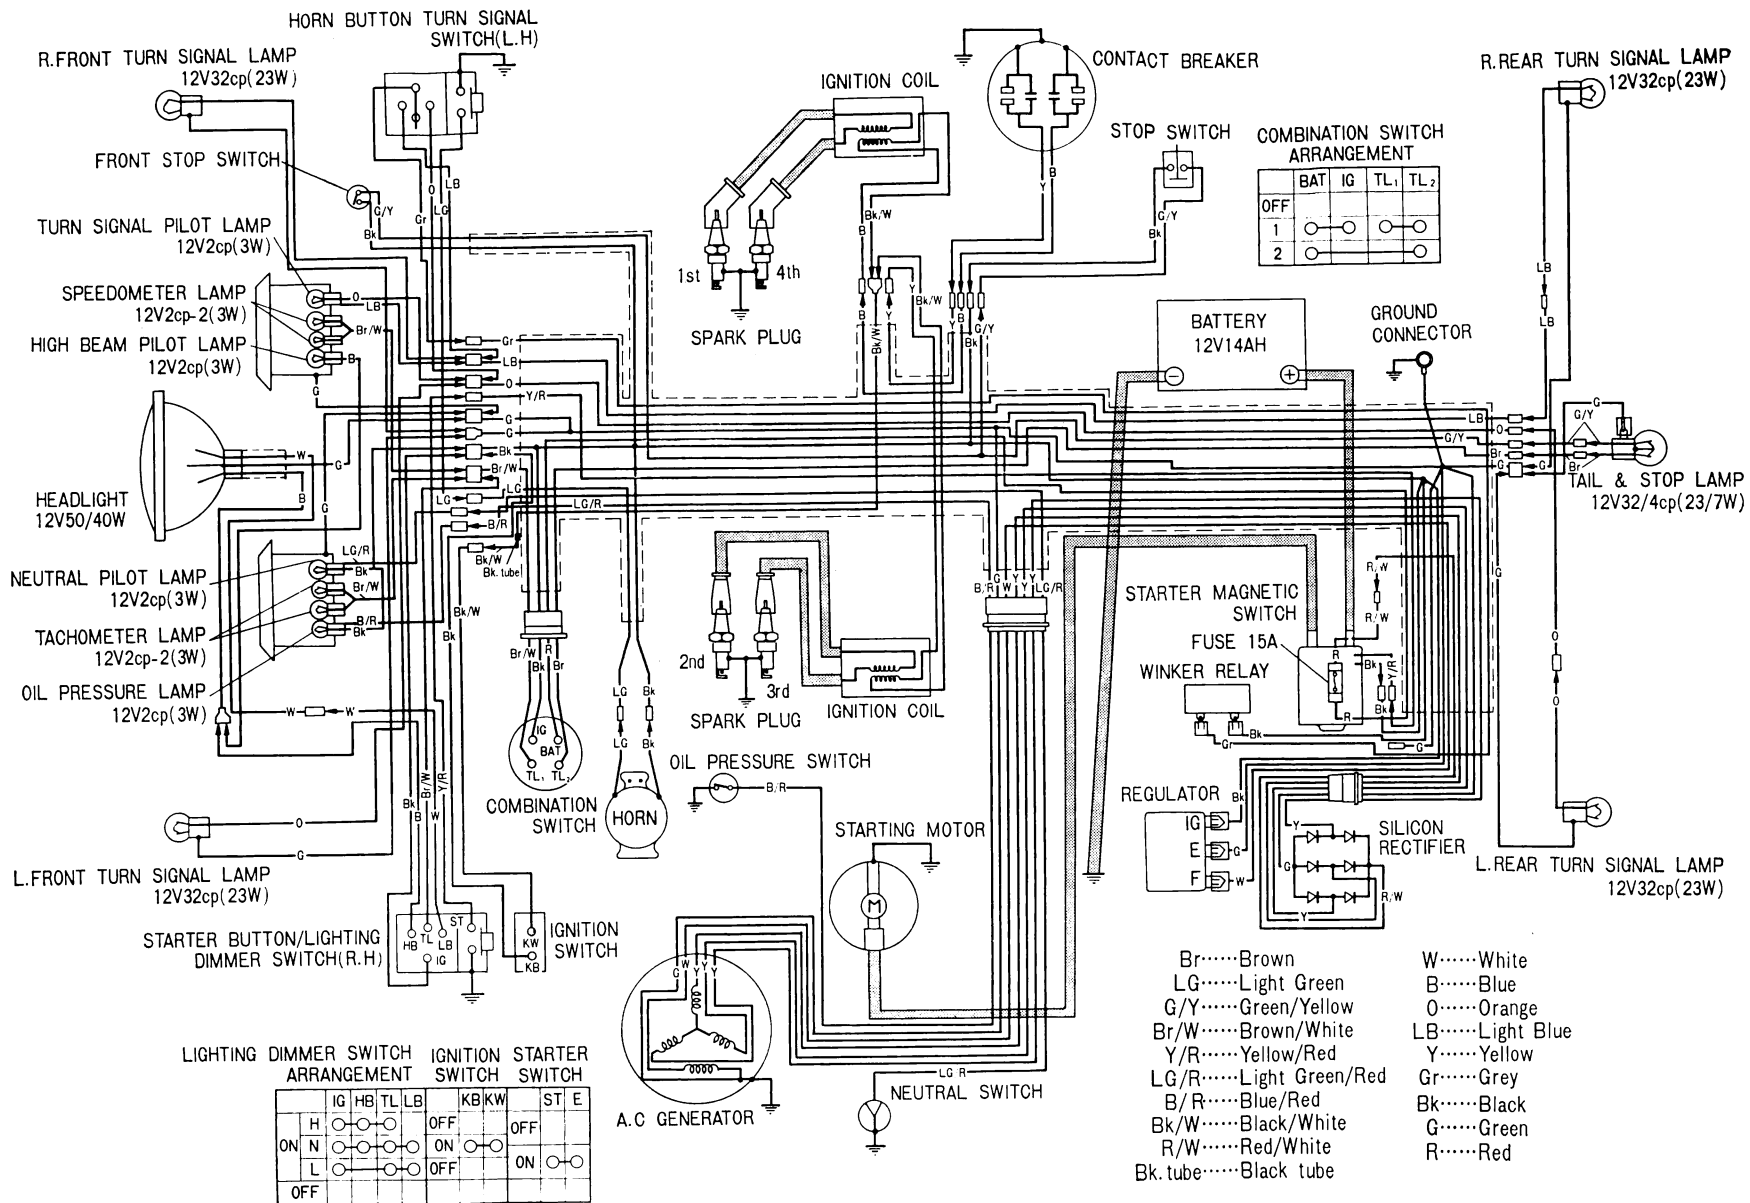

Fig. 22-11 Wiring diagram for starter motor safety unit relay
**Brake Light Systems.** Most motorcycle brake light systems have three major components; the stop-light switch(es), the light bulb, and the ground system. A separate fuse just for the taillight is also found in some systems. (See Fig. 22-11.) Many new bikes have switches for both front and rear brakes to light the taillight; older bikes often have only a switch controlled by the rear brake operation.
Two other switches may also be a part of the starter control circuit, either separately or in series. They are the neutral switch and the clutch switch. Their operation together may require the use of a starting motor safety unit (relay) (Fig. 22-11). In the CB-750 diagram the bike must be in neutral, the clutch must be disengaged, and the starter button pushed on before the solenoid (starter magnetic switch) will complete the power